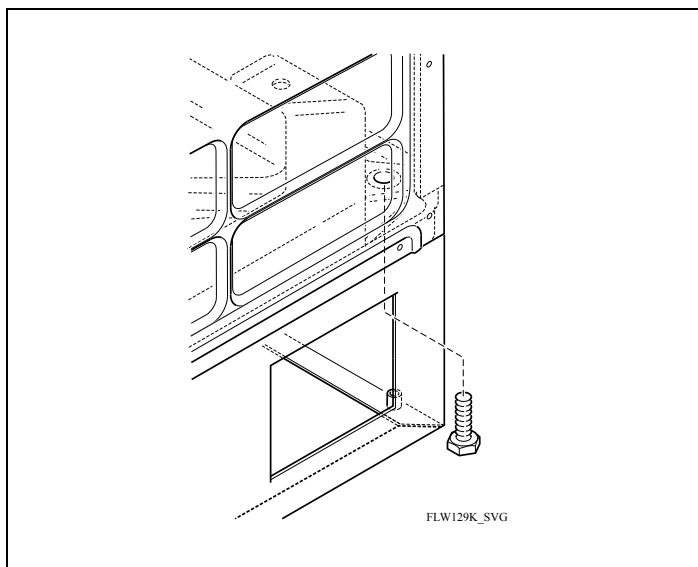

Figure 6
15. Attach washer to pedestal by placing two 1/2-inch screws from back of pedestal into threaded holes on back of pedestal. Refer to *Figure 6*. After partially installing all four, tighten all four screws.